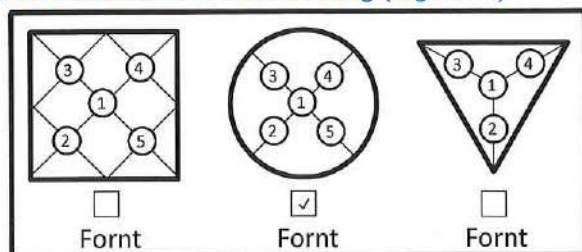

Figure. 1
3. Eccentric or off-centre loading (Figure. 1)